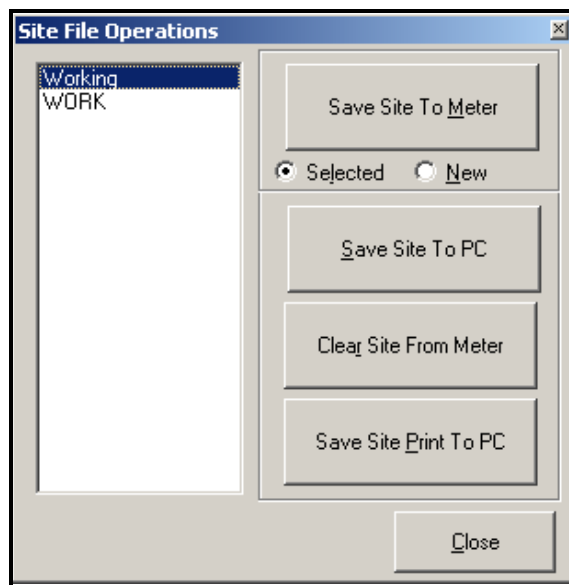

Figure C-17: Site File Operations Window
3. Click on the [Site Files] button. The *Site File Operations* window (shown in Figure C-17 below) opens.
3. The *Site File Selection* window (Figure C-17 on page C-56) opens. Highlight a site file with the desired settings, and click [Open]. The site file becomes the *Working* site in the meter with the desired settings.
1. Highlight the desired site in the left pane. (See Figure C-17 on page C-56.)
1. Highlight the site in the left pane. (See Figure C-17 on page C-56.)